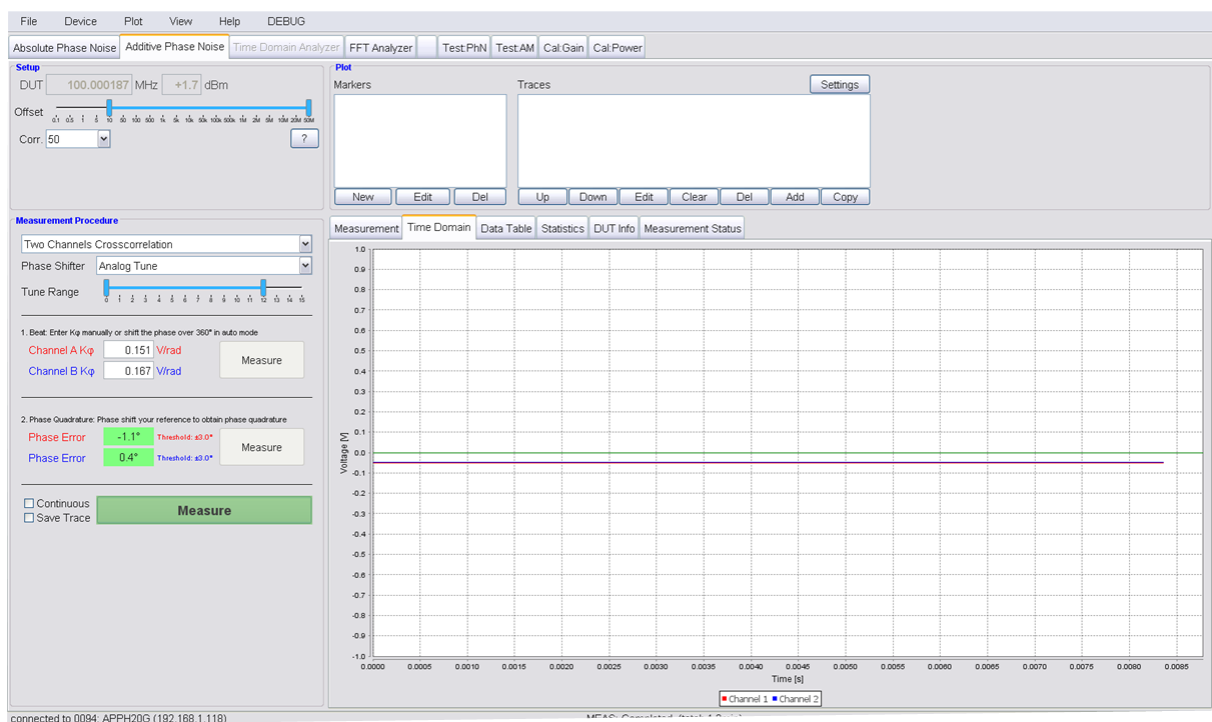

Figure 17 Additive phase noise measurement tab (Time Domain) during step 2, automatically adjusting the phase to quadrature.
2. Once the phase detector constants are known, the phases must be adjusted to obtain phase quadrature. Start this step by pressing the “Measure” button in step 2. Now, the phase difference between signal pairs at RF IN and REF IN (1 and 2) must be adjusted using the external phase shifters to achieve approximate phase quadrature (90 degree phase difference) as shown in Figure 17. The GUI shows a tolerance window of  $\pm 3$  degrees. In case “Analog Tune” is selected and voltage controlled phase shifters are used, this step is performed automatically by the instrument and can be omitted.